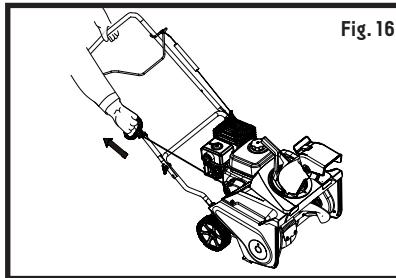

Fig. 16
1. Pull the recoil start handle out approximately 4" to 6"(10 to 15 cm) until you feel a resistance and then start the engine with a sharp pull (Fig. 16)
2. Once the engine is running, put the starter rope into the rope guide (see Fig. 16). While the engine is running, move the choke lever gradually to the "RUN" position;